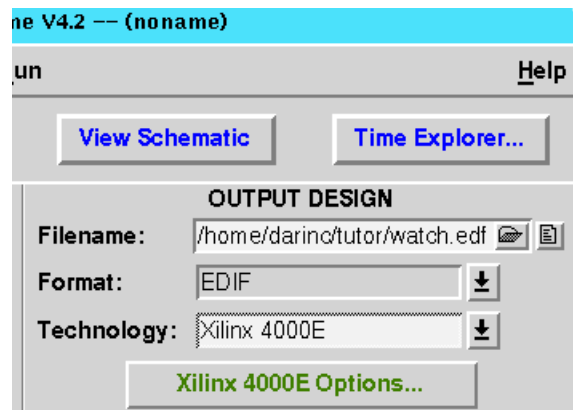

Figure 1-19 Galileo Main Window with Output Design Settings
9. Change the filename to watch.edf as shown in the preceding figure 1-19. By default, the Filename box is set to the path to the directory where the .vhd files reside, and will write to the file of the last, or top level, .vhd file, with the extension of the format, EDIF in this case.